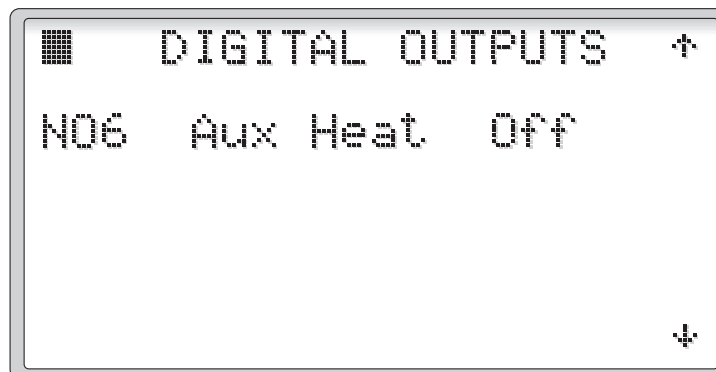

Figure 54
- The first and only line on the second screen (Figure 54), shows the status of NO6, the Auxiliary Heat Contact, “On” and “Off”.